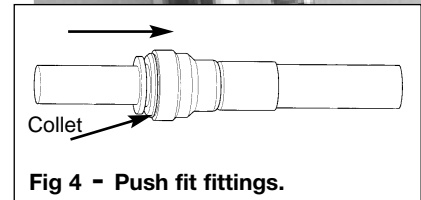

Fig 4 - Push fit fittings.
7. Release unit from pipes by pressing the collets on the elbow fittings, and pulling the unit off the pipework, Fig 4.